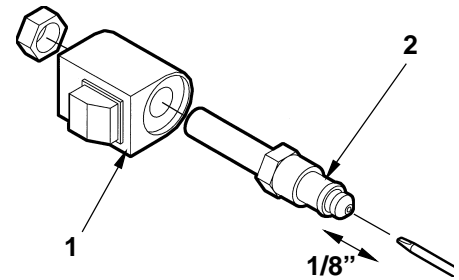

FIG. 10
3. Check if Solenoid Valve is getting power by holding a screwdriver against the top nut of the Solenoid. Push Control Switch to "LOWER" position to energize solenoid (FIG. 10). A good solenoid will attract (magnetically) the screwdriver to the nut and make it difficult to pull the screwdriver away from the nut.
4. Check the Valve Stem by removing the Coil Assembly (Item 1, FIG. 10). With platform supported, unscrew the Valve Stem (Item 2, FIG. 10) from the Pump. Push on the plunger located inside the Valve Stem by inserting a small screwdriver blade in the end. If the Plunger does not move freely (approximately 1/8") replace the Valve Stem.